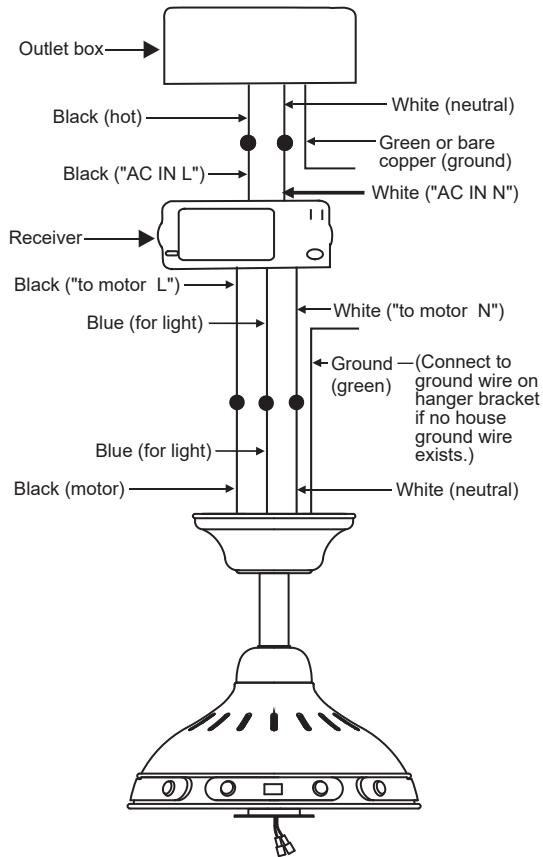

Fig. 14
**Step 2.** Motor to Receiver Electrical Connections: (**Fig. 14**) Connect the black wire from the fan to the black wire marked "TO MOTOR L" on the receiver. Connect the white wire from the fan to the white wire marked "TO MOTOR N" on the receiver. Connect the blue wire from the fan to the blue wire marked "FOR LIGHT" on the receiver. Secure all the wire connections with the plastic wire nuts provided.
**Step 3. (Fig. 14)** Receiver to House Supply Wires Electrical Connections: Connect the black (hot) wire from the ceiling to the black wire marked "AC IN L" from the receiver. Connect the white (neutral) wire from the ceiling to the white wire marked "AC IN N" from the Receiver. Secure the wire connections with the plastic wire nuts provided.
**Step 4. (Fig. 14)** Connect the ground wire (green or bare copper) from the outlet box to the ground wire on the ceiling mounting bracket and the ground wire from the ceiling fan. After making all connections, separate the white and green wire connections to one side and the black wire connections to the other side of the outlet box.